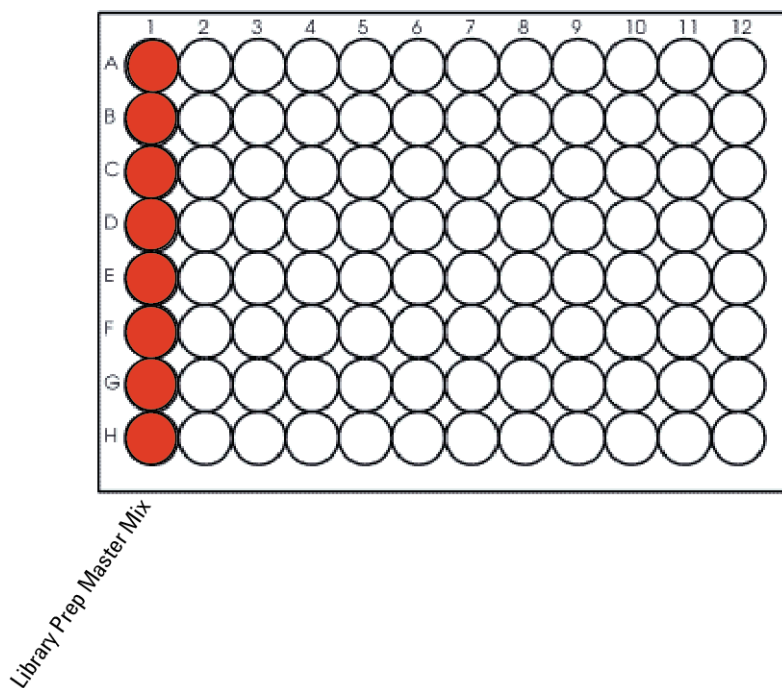

Figure 3 Configuration of the master mix source plate for 01 Tn_QXT_ILM_v1.0.pro
- 7 Prepare the Library Prep master mix source plate using a Nunc DeepWell plate, containing the mixture from step 6. Add the volume indicated in Table 12 to all wells of column 1 of the Nunc DeepWell plate. Keep the master mix on ice during the aliquoting steps. The final configuration of the master mix source plate is shown in Figure 3.